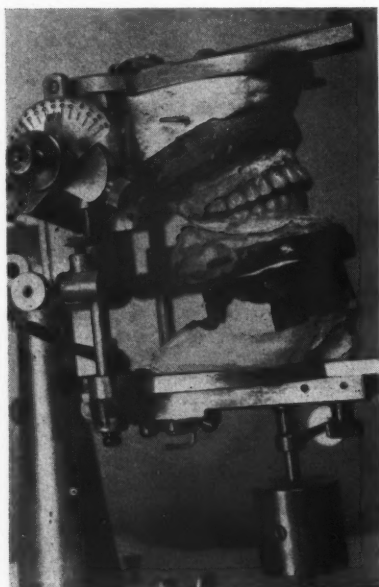

Fig. 1—Right lateral view of full upper and lower dentures after vulcanization.
Fig. 1 represents the right lateral view and Fig. 2, the left lateral of vulcanites that were in centric occlusion in the articulator and in the try-in in the mouth. After vulcanization, the cases were placed back into the articulator with the visible indications for grinding to the angles obtained from the patient. Fig. 4 represents full upper and lower acrylic dentures after processing; they were also in centric occlusion in the articulator and in the try-in in the mouth. This distortion of the teeth takes
place in every case, whether vulcanite or acrylic is used; whether the dentures are made in commercial laboratories or in private dental offices; whether the dentures are vulcanized or processed in the conventional or so-called special vulcanization or processing method. The result is always more or less the same as is seen in Figs. 1, 2, and 3.
5. Return to the articulator. (If an anatomic articulator is used, lock the artificial condyles in centric occlusion.) The result will resemble Figs. 1, 2, and 3.
Let us see what takes place when dentures, such as are shown in Figs. 1, 2, and 3, are finished without grinding to the angles obtained from the patient or when grinding is done without registration of the condylar path. When placed in the mouth, these dentures will be in centric occlusion as shown in Fig. 4, provided centric occlusion was obtained in the first place. The reason that such dentures are found in centric occlusion is that the variation in all these cases takes place between the palate and the denture of the upper and the underlying tissue and the lower. It is customary to place the two dentures in the mouth and have the patient close. There is then a slight movement of the upper and lower owing to malocclusion which is not visible to the naked eye, and centric occlusion seems good. In order to see the movement, it is necessary to attach the screen to the upper and the light to the lower denture, as shown in Figs. 5 and 6; then place the two dentures in the mouth and the ray of light will trace the movement on the screen,